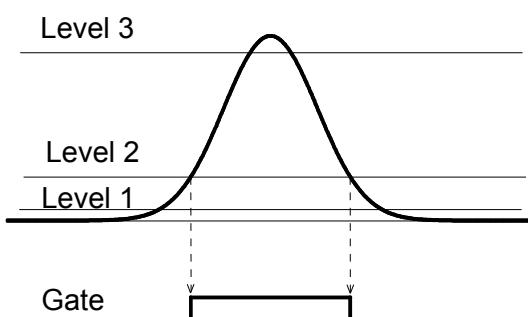

Figure 5-21: Burst detection trigger levels.
- **Trigger on UI:** This is the default burst detector mode. The burst detector is triggered by the squared envelope from the *UI* signal. The trigger levels are illustrated in Figure 5-21. Level 2 determines the start and stop of the measurement. The envelope must exceed level 3 to validate the burst, and it must be below level 1 between bursts. Applying a TTL low level to the burst detector inhibit connector (BNC chassis connector) on the rear panel of the FVA processor disables burst detection. If left open or held at TTL high level, detection is enabled. This allows conditional sampling using an external trigger source. When triggering on *UI*, the inhibit line inhibits when data can be collected.
- **External Trigger:** In this mode the burst detector inhibit input completely controls burst detection, i.e. the burst detector is by-passed. The TTL level voltage should be held high during the integration time interval (*gate*) shown in Figure 5-21. The BNC connector *BURST DET. INHIBIT* on the rear panel of the signal processor functions as gate input.